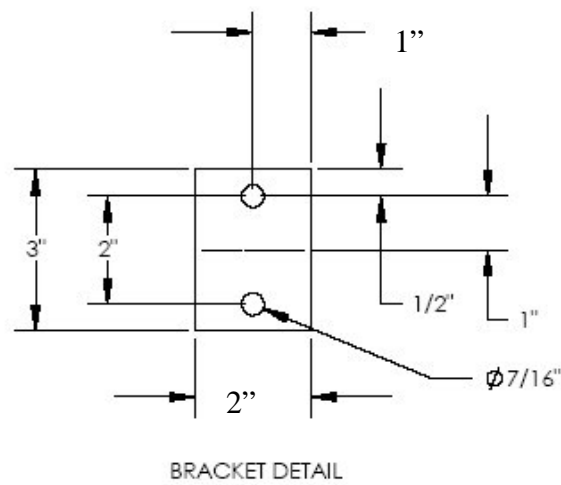

Figure 4 - Bracket detail
6. Using brackets as a template, mark location of mounting holes to be drilled. Fig. 4 and mount brackets (see steps 8,9,10,11).